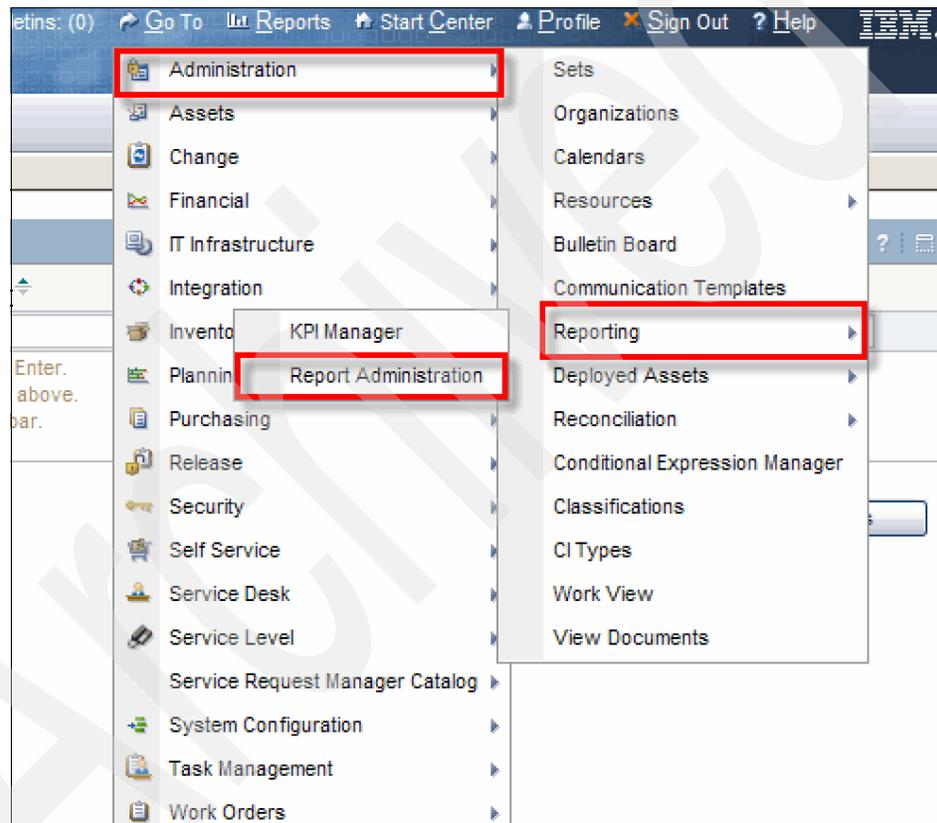

Figure 6-1 Report menu
1. Start the Report Administration application from the Start Center by selecting **Go To** → **Report Administration** → **Reporting** → **Report Administration**, as shown in Figure 6-1.